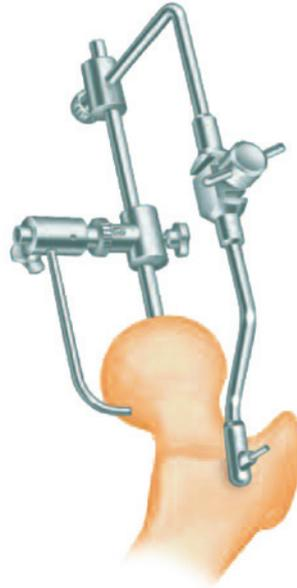

Figure 9
7. The alignment jig can now be used to correctly position the long guide wire and ultimately achieve correct implant positioning (Figure 9).